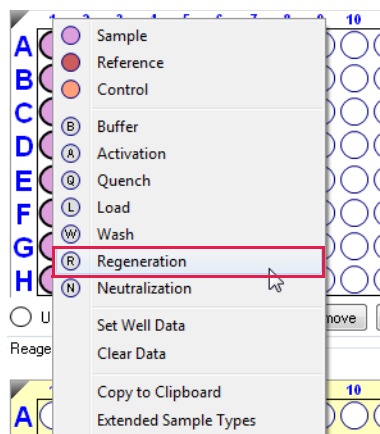

Figure 10-40: Regeneration Step
- In the **Sample Plate Map**, assign wells as **Regeneration** or **Neutralization** (Figure 10-40).